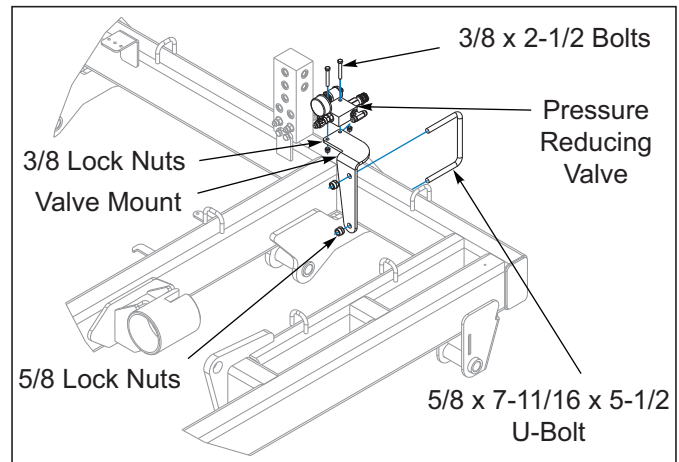

Figure 3-35: Pressure Reducing Valve Installation
8. Attach the valve mount plate to front tube of center frame using 5/8 x 7-11/16 x 5-1/2 u-bolt and 5/8 lock nuts See Figure 3-35.